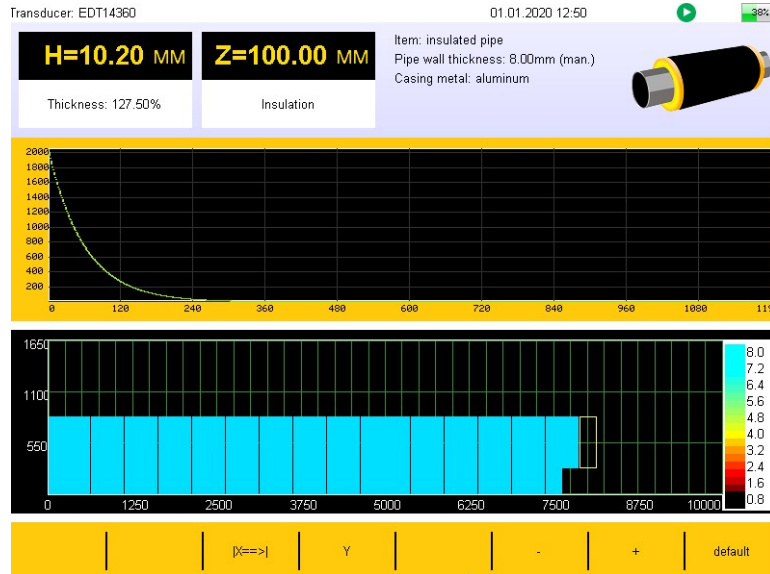

Figure 29. Change of A-scan size along the horizontal axis
– enables to change the horizontal axis scale. By pressing the  key under the  icon once, you can change over the A-scan window to the mode of changing the maximum value along this axis. This window is shown in Figure 29.